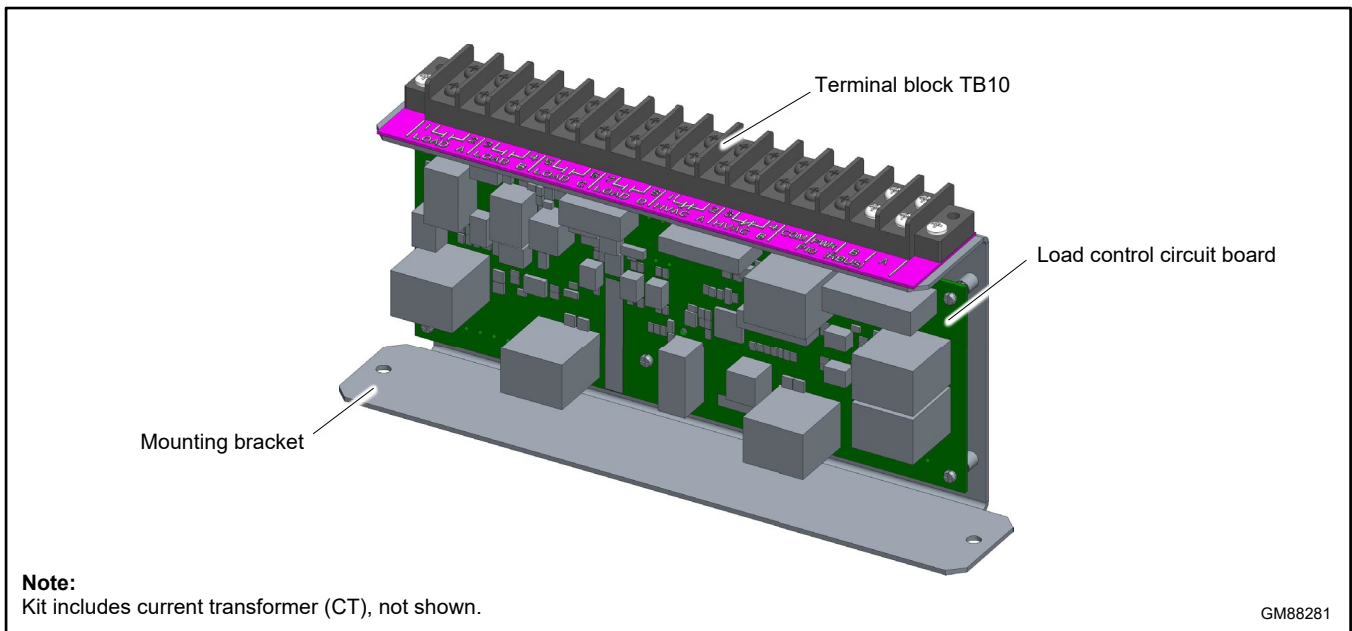

Figure 38 Load Shed Assembly GM88281-1 (mounts inside the transfer switch enclosure)
- The optional Load Shed Kit mounts inside a model RDT or RXT transfer switch. Figure 38 shows the load shed assembly.